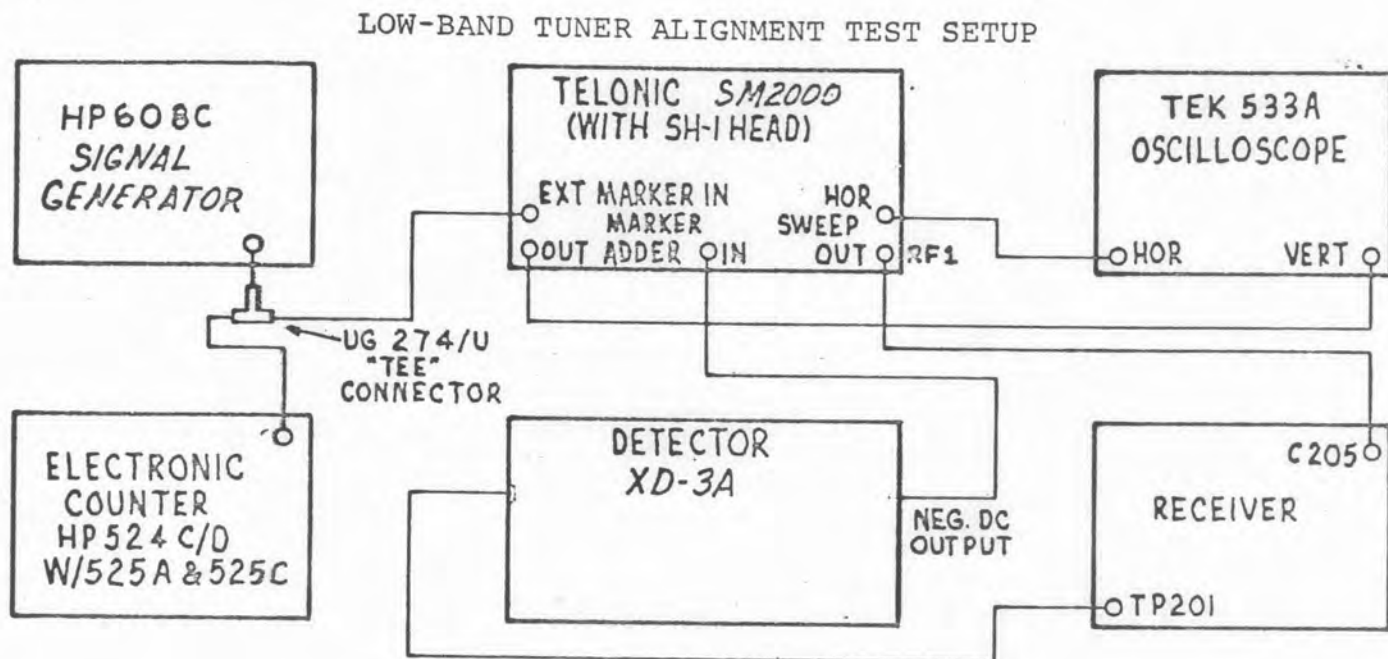

Figure 5-12
- a. Set up equipment as shown in Figure 5-12.